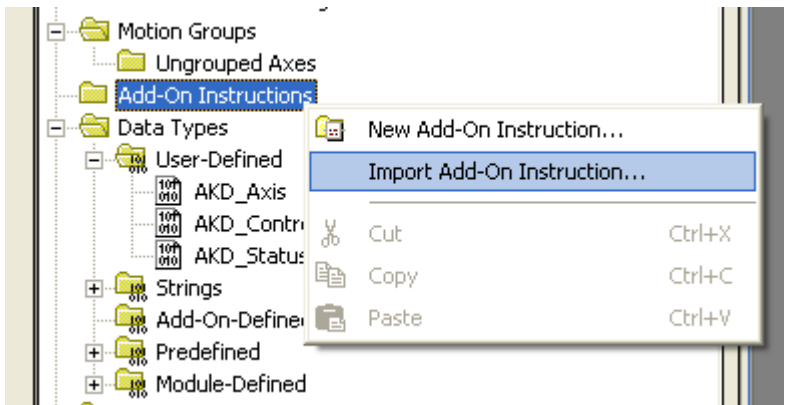

Figure 5-9: Importing Add-On Instructions
5. Next, to import the add-on instructions, right click on the “Add-On Instructions” folder and select “Import Add-On Instruction...” (Figure 5-9: Importing Add-On Instructions)